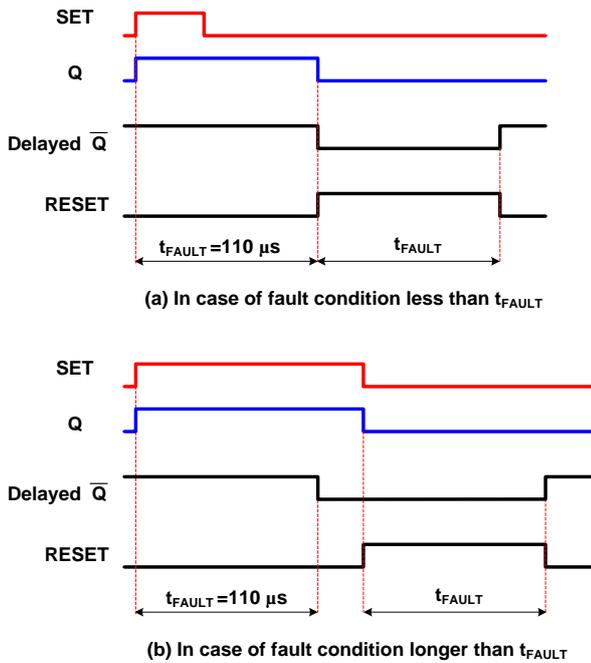

Figure 45. Timing Definition of Fault-Out
If fault condition time is less than fault clear time (Case-a), the pulse width of fault-out (FO) is 110 μ s. If longer (case-b), pulse width of fault-out same with fault condition time as shown in Figure 45.